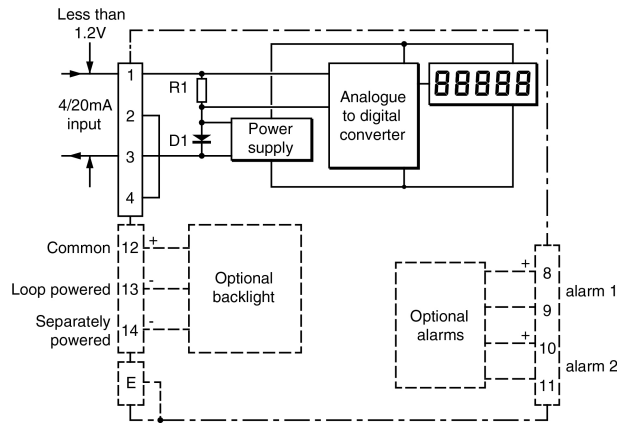
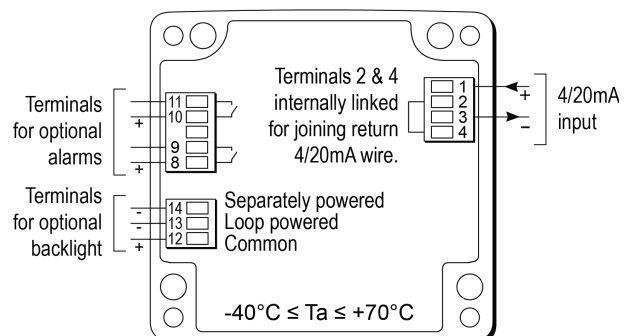

Fig 1 Indicator block diagram
Fig 6 Terminals and overall dimensions
Fig 1 shows a simplified block diagram of all models. The 4/20mA input current flows through resistor R1 and forward biased diode D1. The voltage developed across D1, which is relatively constant, is multiplied by a switch mode power supply and used to power the instrument. The voltage developed across R1, which is proportional to the 4/20mA input current, provides the input signal for the analogue to digital converter.
Panel wiring terminals are located on the rear of the indicator as shown in Fig 6 which has IP20 protection. Terminals 2 and 4 are internally joined and may be used for linking the return 4/20mA wire - see Fig 1.
- Connect panel wiring to the indicator terminals as shown in Fig 6.